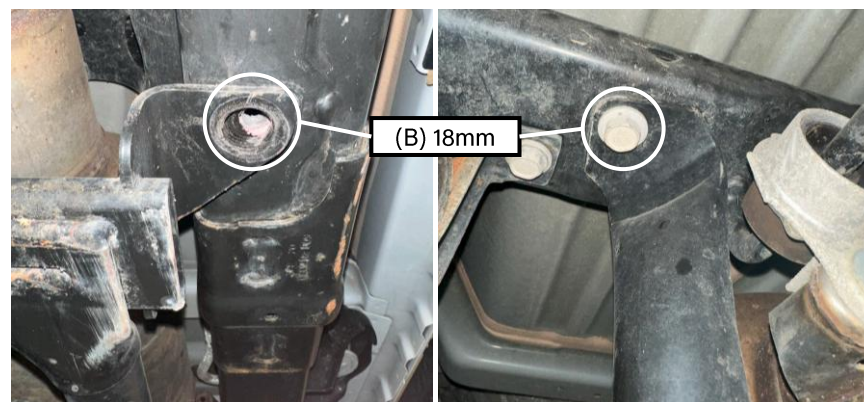

Figure 25: Rear skid plate bolts to remove
- ❑ (A) Remove the x2 transfer case skid plate bolts (x2 18mm)
- ❑ (B) Remove the rear-most exhaust skid plate bolts (x2 18mm, opposite side of gas tank) as seen in Figure 25
- ❑ (C) Remove the x2 13mm bolts holding the exhaust skid to the skid cross member (Figure 25)
- ❑ (D) Fully remove the skid cross member by removing the x2 18mm bolts from both frame rails